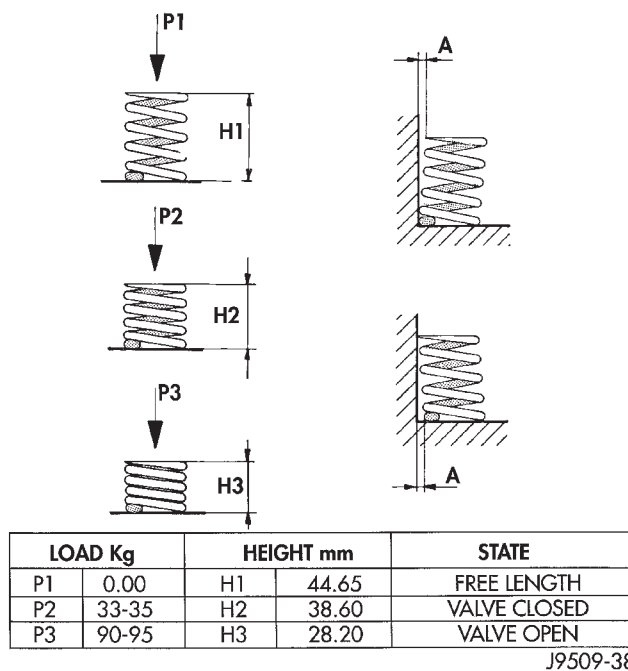

Fig. 2 Valve Spring Chart
(1) Inspect for cracks in the combustion chambers and valve ports.
(2) Inspect for cracks on the exhaust seat.
(3) Inspect for cracks in the gasket surface at each coolant passage.
(4) Inspect valves for burned, cracked or warped heads.
(5) Inspect for scuffed or bent valve stems.
(6) Replace valves displaying any damage.
(7) Check valve spring height (Fig. 2).